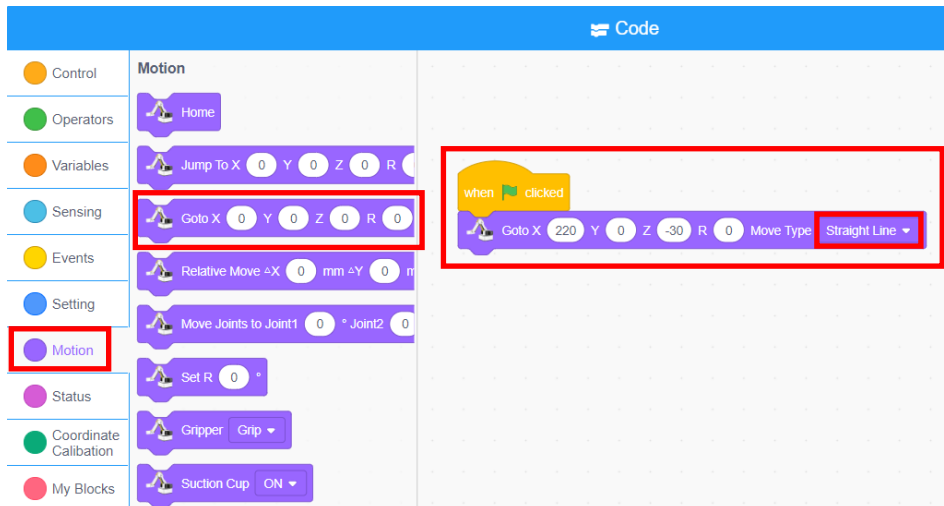

Figure 2.4 Motion block
Step 4: Move to the initial position. In the Scratch interface, click the "**Motion**" tab, drag the "Motion" block to the code area, set the X, Y, and Z values to 220, 0, and -30, and set the motion type to "Straight Line" motion, as shown in Figure 2.4.